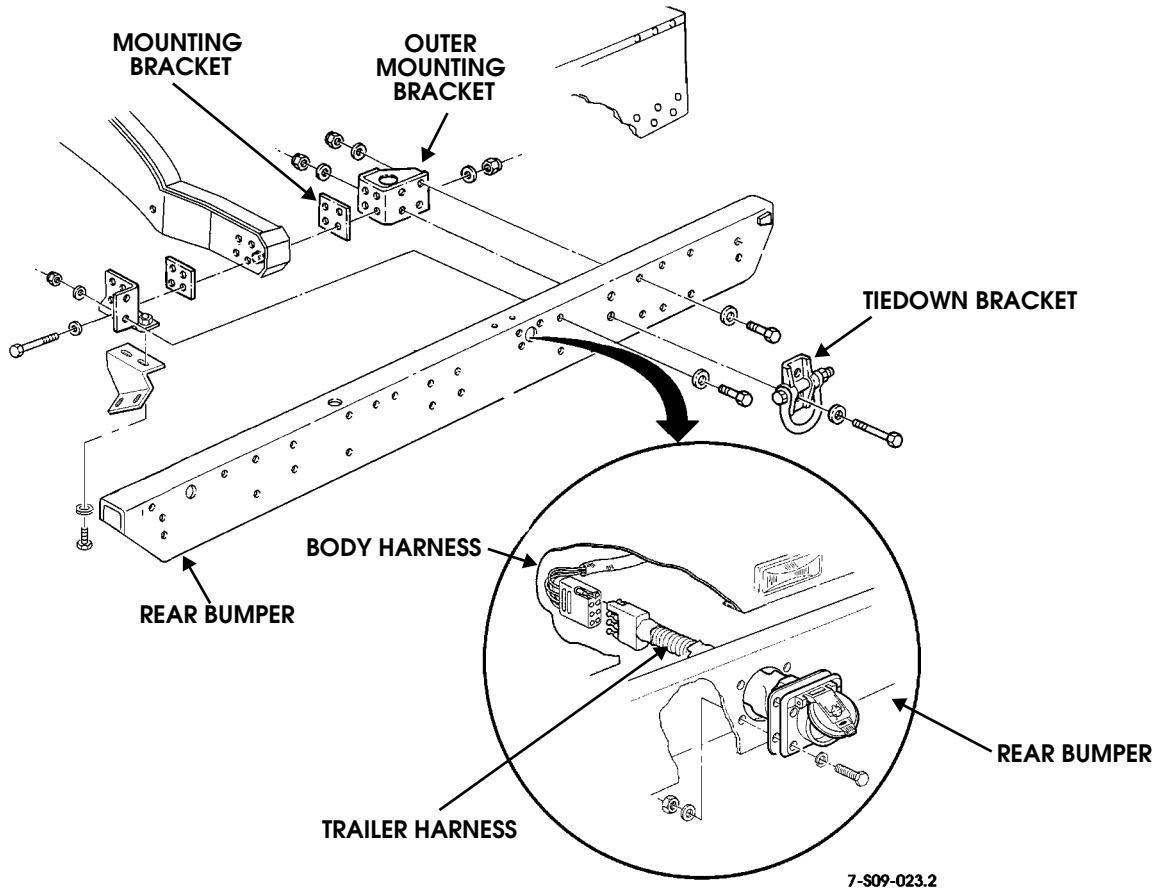

Figure 9-134: Rear Bumper Replacement
4. Remove two locknuts, washers, bolts, and washers securing trailer harness to rear bumper (Figure 9-134).
1. Install rear bumper on two mounting brackets and secure with eight washers and bolts. Do not tighten bolts (Figure 9-134).